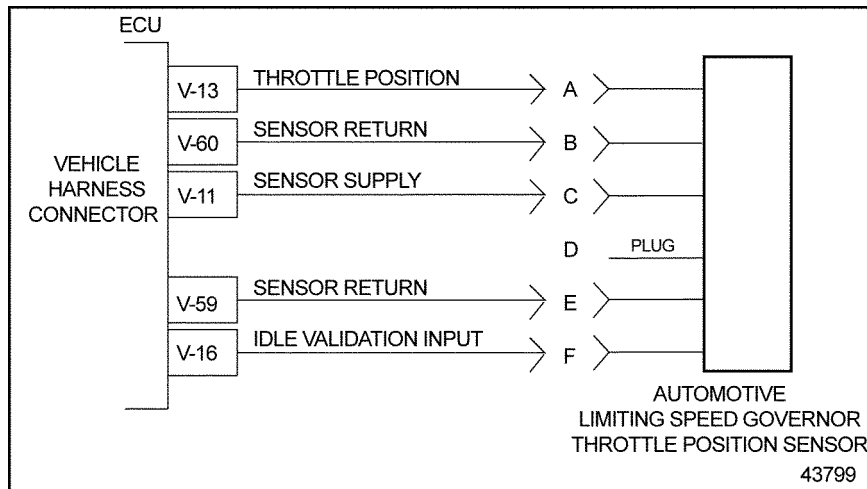

Figure 27-5 Throttle Position Sensor
2. Measure resistance between sockets V-11 and V-60 on the vehicle harness connector. See Figure 27-5.